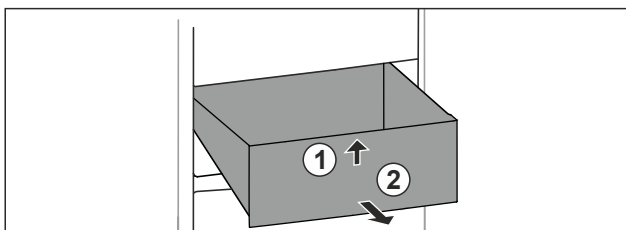

Fig. 86
- Lift up drawer at the front. Fig. 86 (1).
- Remove drawer to the front. Fig. 86 (2).